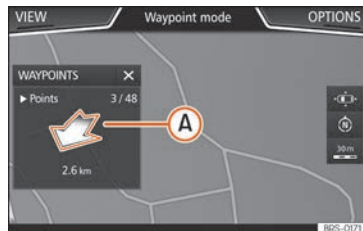

Fig. 213 Offroad route guidance mode
- The general direction of travel is indicated straight ahead by direction arrows in the Infotainment System pop-up window **»» Fig. 213 A.**